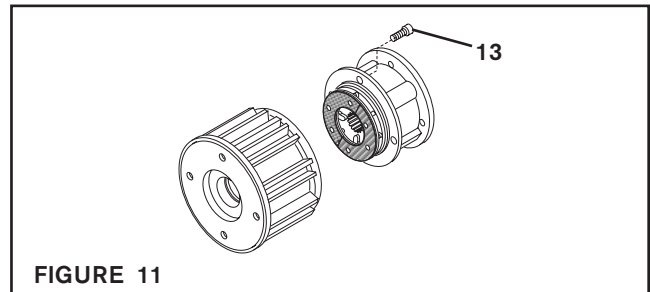

FIGURE 11
- Remove the four Socket Head Cap Screws (Item 13) and separate the two halves of the FMCBE (See Figure 11).